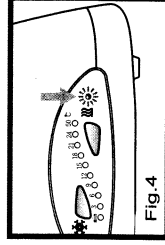

Fig.4
"Warming" - If the temperature of the aluminium container is lower than the temperature set, the red "Warming" LED (2) at the right of the control panel will be on. [as Fig.4]